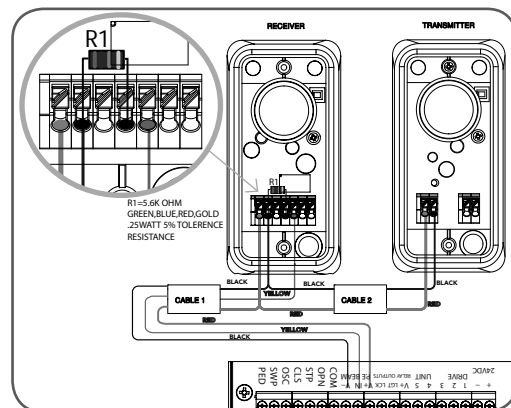

fig 58
Locate the Photo Electric (PE) Beams in a strategic location in the doorway. Automatic Technology recommend that the sensor is placed 100 mm above the floor level and as close as possible to the door opening. Connect as per the wiring diagram (Fig. 58).
Use 5.6 kilo ohm resistor with the colour code green, blue, red and gold on the PE Beams receiver between the V- and NC terminals as shown in (Fig. 58).
WARNING: Install the PE Beams as per diagram in (Fig. 58). **Tampering** with the PE Beams could result in serious personal injury and/or property damage and will void the warranty.